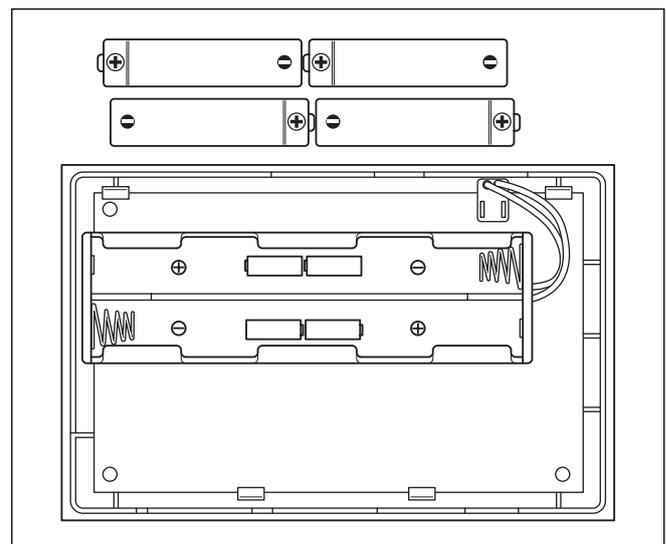

Fig. 5.2 Inserting the batteries
**Ensure correct polarity of the batteries (see Fig. 5.2).